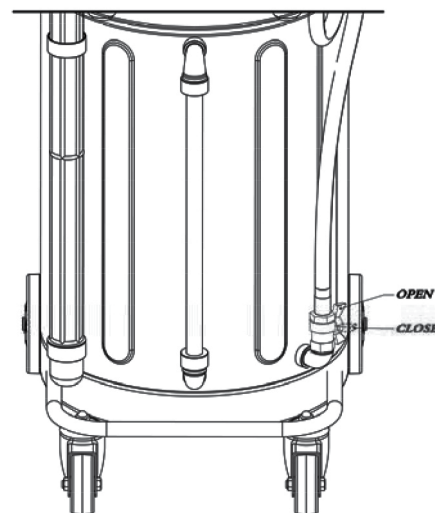
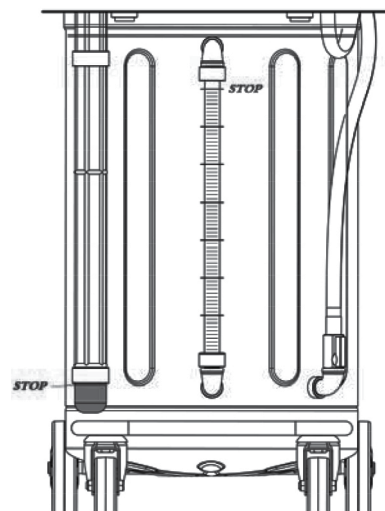

Fig 9
Fig 10
#### Tank Emptying (FIG 9 & FIG 10)
When the oil retained in tank is near full (FIG.10), you need to eject oil out into a disposal tank and resolve the waste oil accordingly to the instruction of local government.
**Note:** Discharge Residual oil from Residual oil cup when it reaches STOP sign. (FIG.10)